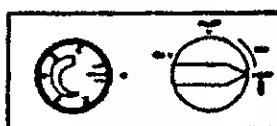

Figure 18 - Control Knob In The OFF Position
- Push in control knob slightly and turn clockwise \curvearrowright to the OFF position. (see Figure 18).
- Push in and turn control knob counterclockwise \curvearrowleft to PILOT position. Press in control knob for five (5) seconds.
- Press in control knob and turn counterclockwise \curvearrowleft past IGN to PILOT (see Figure 18). This will cause the piezo ignitor to spark and light the pilot gas. Keep control knob depressed for 10 seconds before releasing. If needed, repeat steps 5 through 7 until pilot lights
- When pilot is lit, turn the control knob to ON position (see Figure 18).
- To select desired heating level, turn the temperature setting knob counterclockwise \curvearrowleft between 1 and 7 (see Figure 18).